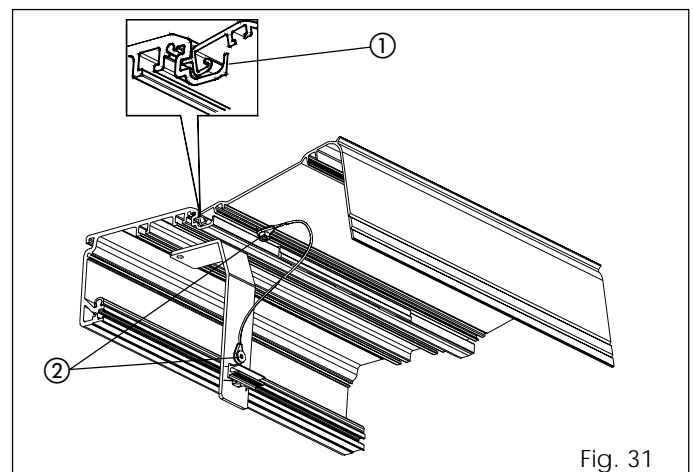

Fig. 31
- To keep the housing open, lift it and push it toward the profile until the metal projection fits into the profile seat (fig. 31 ref. ①).
- Fasten the 'parachute' cables on the housing and on the housing fixing brackets as shown in fig. 31 ref. ②.